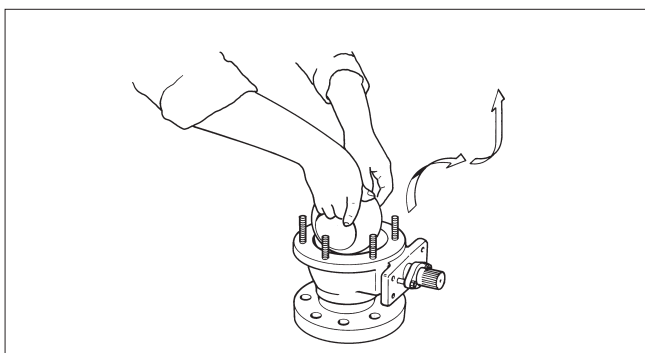
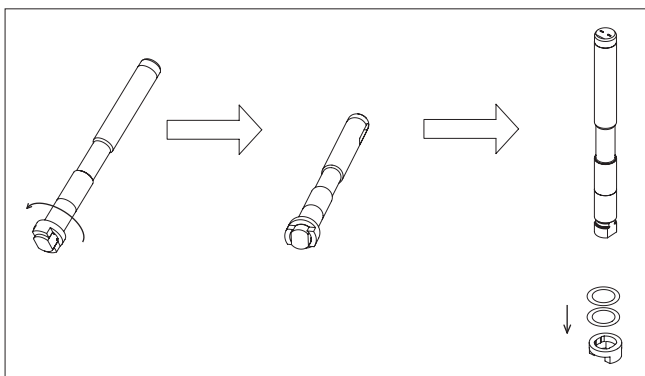

Fig. 17 Removing the ball from the body
Fig. 18 Detaching the thrust ring in sizes 1" and 1 1/2"
- Remove the ball (3) from the body (1) by gripping the edges of the flow bore (small sizes) or by passing a rope through the bore (large sizes). To detach the ball from the spline driver (4) in sizes 2"-8" or from shaft/thrust ring (4) in sizes 1"-1 1/2", turn the ball to the closed position before lifting. Make sure that the ball is not damaged and put it onto a soft surface. See Figure 17.
- Remove the key (10).
- Remove the gland nuts (18), spring sets (150), studs (14), retaining plates (42) and gland (9). Remove the packing (69). Remove the pin (50). Remove the spline driver (2"-8") or thrust ring (1"-1 1/2") inside the body. For detailed figures to remove the thrust ring see Figure 18. Remove the shaft (5) by pulling it outwards. Please note that this will detach the thrust bearings (70) from around the shaft.